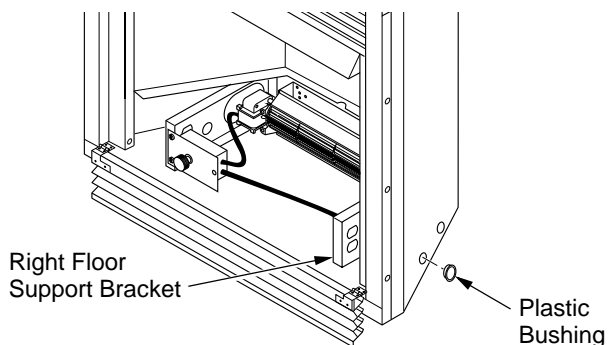

Figure 20 - Installing Plastic Bushing for Power Cord
- a. **If your fireplace system is installed as a freestanding unit with an accessory mantel**, determine whether the power cord will exit the left side or the right side of the firebox. Install 1 plastic bushing provided into the 1.5" hole in the floor support bracket on the exit side (see Figure 20). Install the second plastic bushing provided into the 1.5" hole in the outer casing through which the power cord will exit. Route power cord through both plastic bushings and plug the power cord into a properly grounded 3-prong wall receptacle near the firebox.